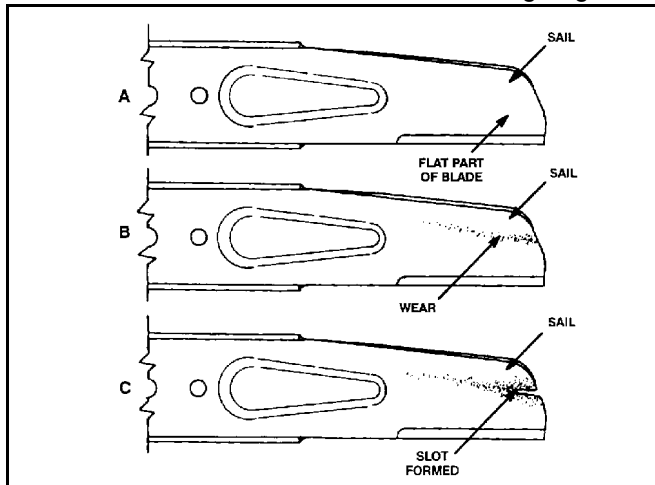

Figure 30
3. EXAMINING BLADE — Carefully examine blade for sharpness and wear, especially where flat and curved parts meet. Since sand and abrasive material can wear away the metal that connects the flat and curved parts of the blade, check blade before using the mower. If a slot or wear is noticed, replace blade (Figure 30). Refer to step 4.